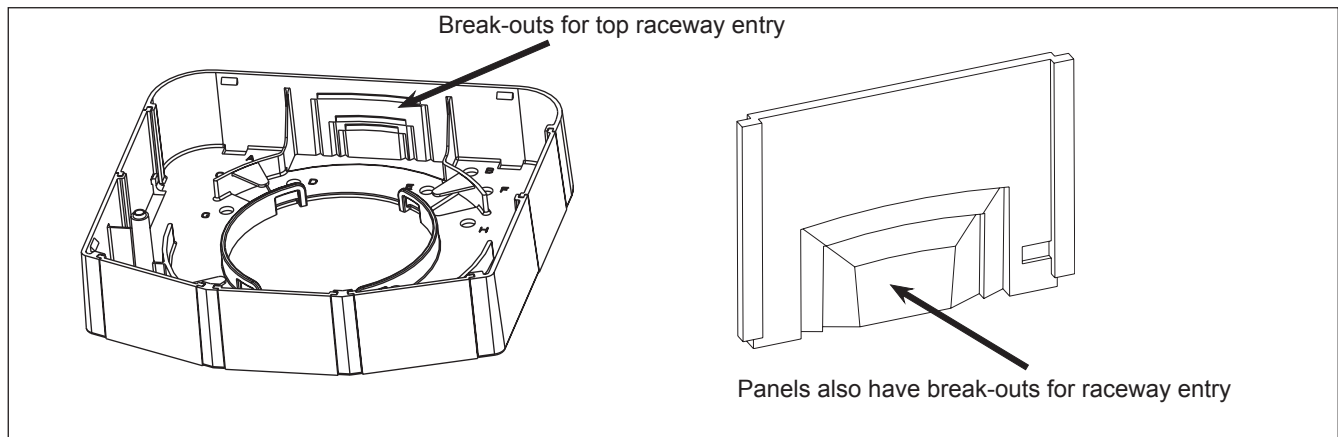

Figure 3
**Remove breakouts for surface mount raceway.** The top end of the WMO has breakouts for standard  $\frac{3}{4}$ ", 1" or 1- $\frac{1}{2}$ " wide raceway. The WMO blank panels have similar breakouts for  $\frac{3}{4}$ " or 1" wide raceway, which allows any of the panel openings in the WMO to be used as a raceway entry point. Use a utility knife to remove the appropriate knockout. (Figure 3)